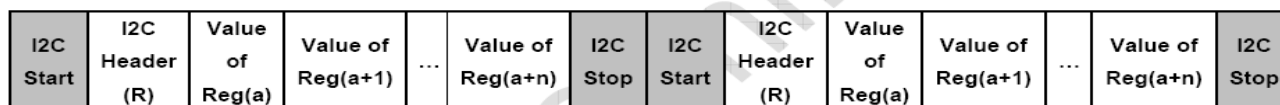

Figure 2. Repeated Register Read.
ST1232/ST1332 I2C host interface protocol supports *Repeated Register Read*. That is, once the *Start Register Address* has been set by host, consequent I2C Read(R) transactions will directly read register values starting from the *Start Register Address* without setting address first, as shown in Figure 2.